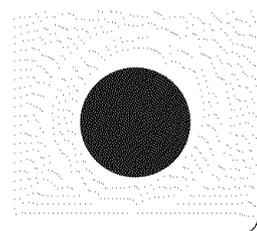
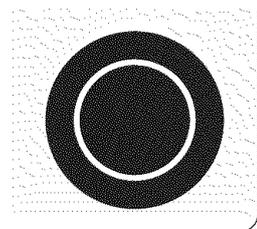

Fig. 3
Fig. 4
Both the 30" and 36" cooktops are equipped with dual radiant surface element located as shown in Figs. 1 & 2. A touch key pad on the element controls is used to select one of the 2 positions of the element. Symbols and indicator lights on the control panel are used to indicate which coil of the dual radiant element will heat. The ● symbol indicates that only the INNER coil will heat (Fig. 3). The ◎ symbol indicates that both INNER and OUTER coils will heat (Fig. 4). You may switch from either coil setting at any time during cooking.
4. Select the INNER (Fig. 3) or INNER and OUTER (Fig. 5) to heat by touching the  key pad.